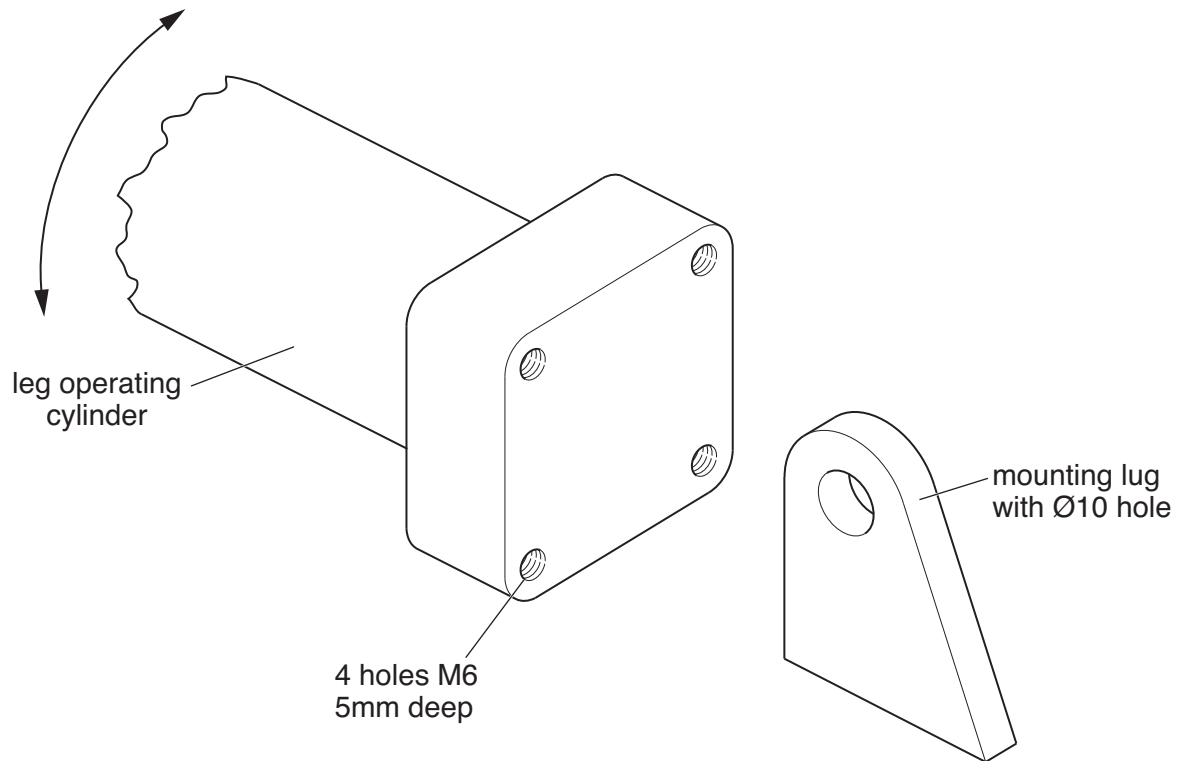

Fig. 6
Fig. 6 shows the rear of the cylinder that operates the leg. This cylinder must be attached to the mounting lug on the chassis and allowed to move as shown by the arrow.
- (b)** Draw on Fig. 6 a bracket that will secure the cylinder to the mounting lug of the chassis and allow the correct movement of the cylinder. [5]